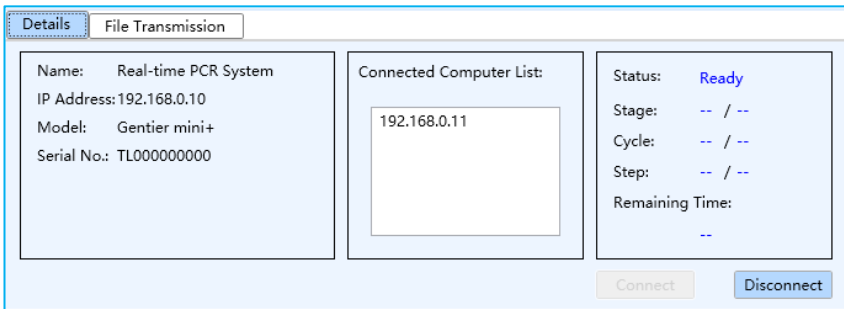

Figure E-3.2c Instrument Management Interface - Details Tab
- **Details** tab: includes three information areas and two function keys, as shown in figure E-3.2c.